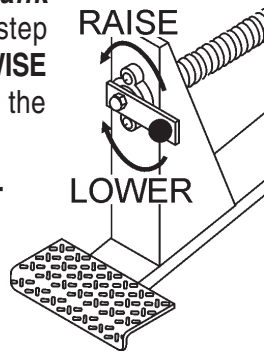

Figure 24. Raise/Lower Crank Handle
- Using the **Raise/Lower Crank Handle**, located above the step pedal, turn the handle **CLOCKWISE** to **LOWER** the saw blade to the required depth (Figure 24).